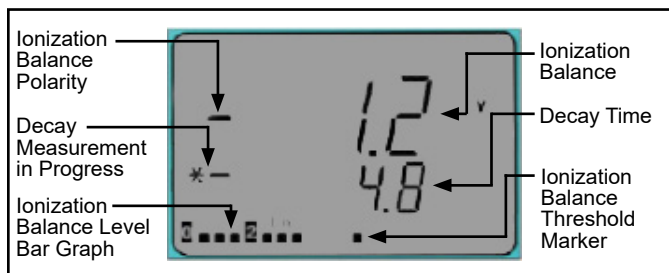

Figure 10. Balance and Decay Mode channel
1. Toggle the joystick until the Ionization Balance and Decay channel are displayed (Figure 10).